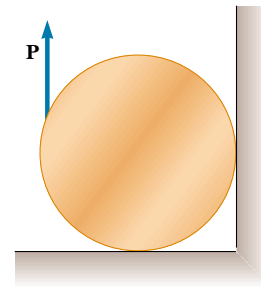

Figure P12.62
62. Figure P12.62 shows a vertical force applied tangentially to a uniform cylinder of weight F_g . The coefficient of